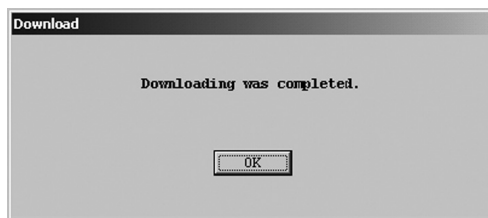

Fig.96
- ⑦ When downloading is completed, a message box like the one shown in Fig. 96 appears. Click on "OK".